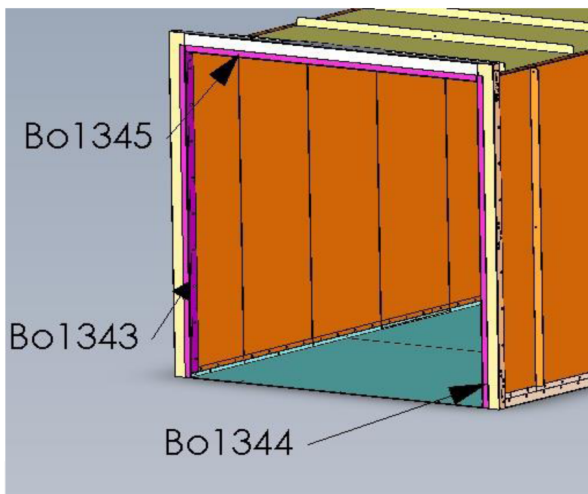

Figure 10
10) Install seal bracket BO-1343, BO-1345 and BO-1344 using 5/16" bolts. **See figure 10.**